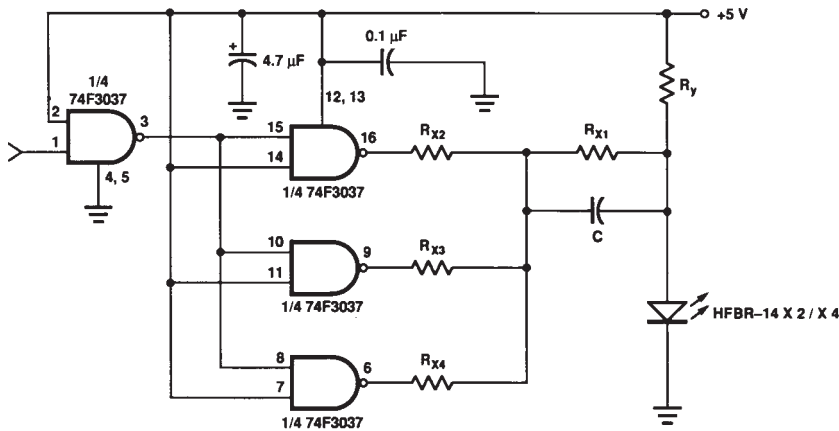

Figure 11. Recommended drive circuit.
- Pre-bias is recommended if signal rate >10 MBd, see recommended drive circuit in Figure 11.
The circuit used to supply current to the LED transmitter can significantly influence the optical switching characteristics of the LED. The optical rise/fall times and propagation delays can be improved by using the appropriate circuit techniques. The LED drive circuit shown in Figure 11 uses frequency com-